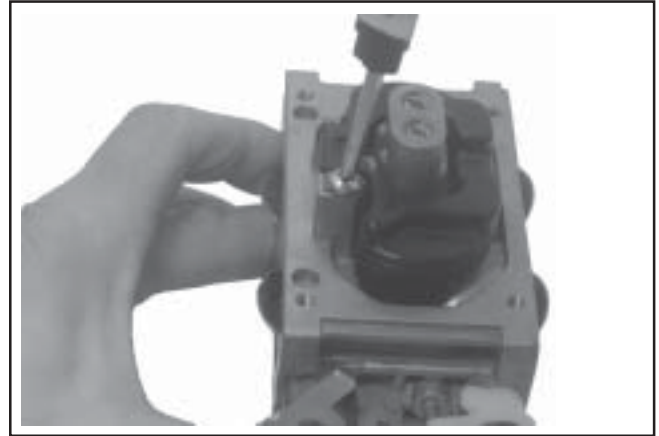

Figure 5-30. Installing Float Assembly.
13. Install the float and inlet needle down into the seat and carburetor body. Install the new pivot pin through the float hinge and secure with the new retaining screw. See Figure 5-30.